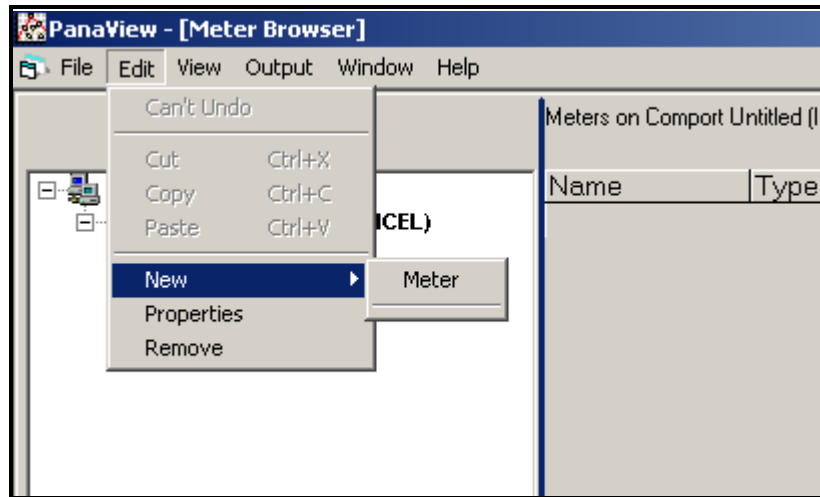

Figure C-4: “*New*” Option in the “*Edit*” Menu
2. Click on the “*New*” option in the “*Edit*” menu (see Figure C-4 below).